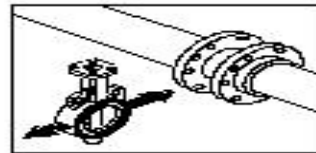

Fig 3.4 : Installation of valve into pipe line
- b) Use flange gaskets Ref to fig 3.4.